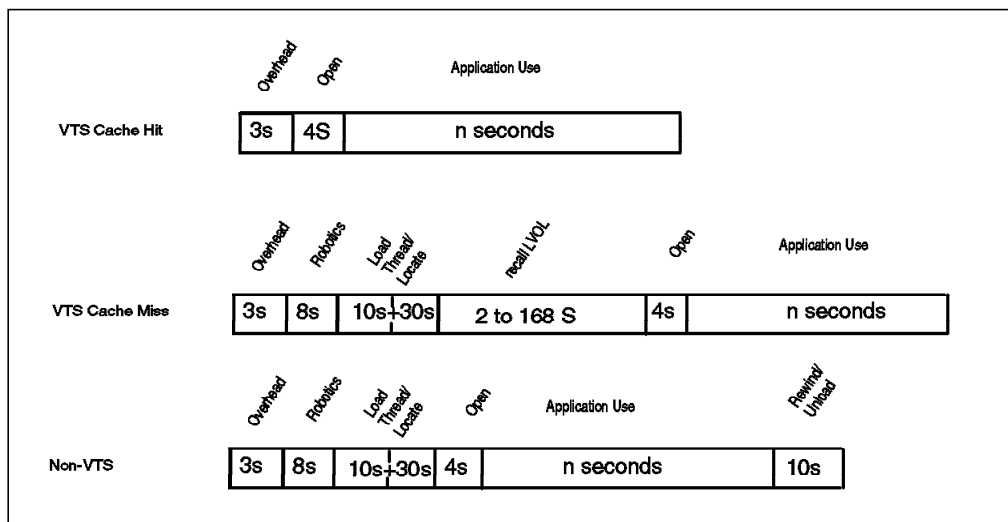

Figure 11. Tape Processing Time Comparison (freehand drawing, not to scale)
Figure 11 shows the effect on a job and drive assignment that a VTS can have as compared to a native drive. The figure is a freehand drawing, and it is not to scale. It shows typical estimated elapsed times for elements that would make up the reading of data from a tape. When comparing the three time lines in Figure 11, notice that the VTS cache hit time line does not include robotics, load, or thread time at the beginning of the time line, and it does not include any rewind or unload time at the end.
- **Scratch write mount times** — When a program issues a scratch mount to write data, the VTS uses information held in the TVC to simulate the tape being mounted. We describe the scratch mount process in Section 1.5.1, “Mounting a Scratch Tape” on page 12. The effect of using the fragment data in the TVC is that the performance of scratch mounts is fast, because no physical mount is required. The performance for scratch mounts is the same as for TVC read hits, which are compared with the non-VTS equivalents in Figure 11 on page 22.